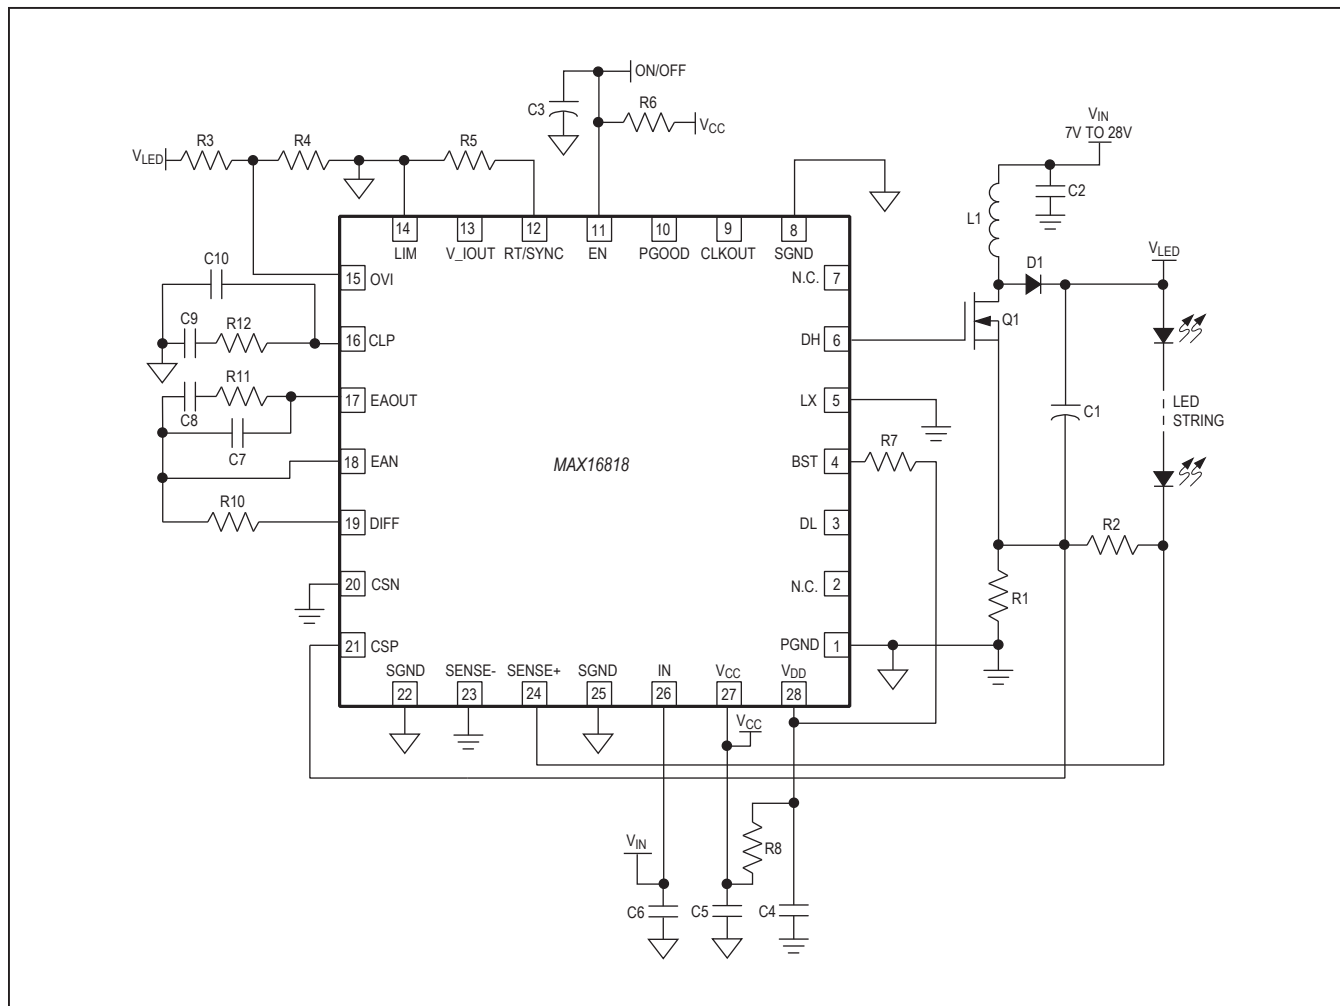
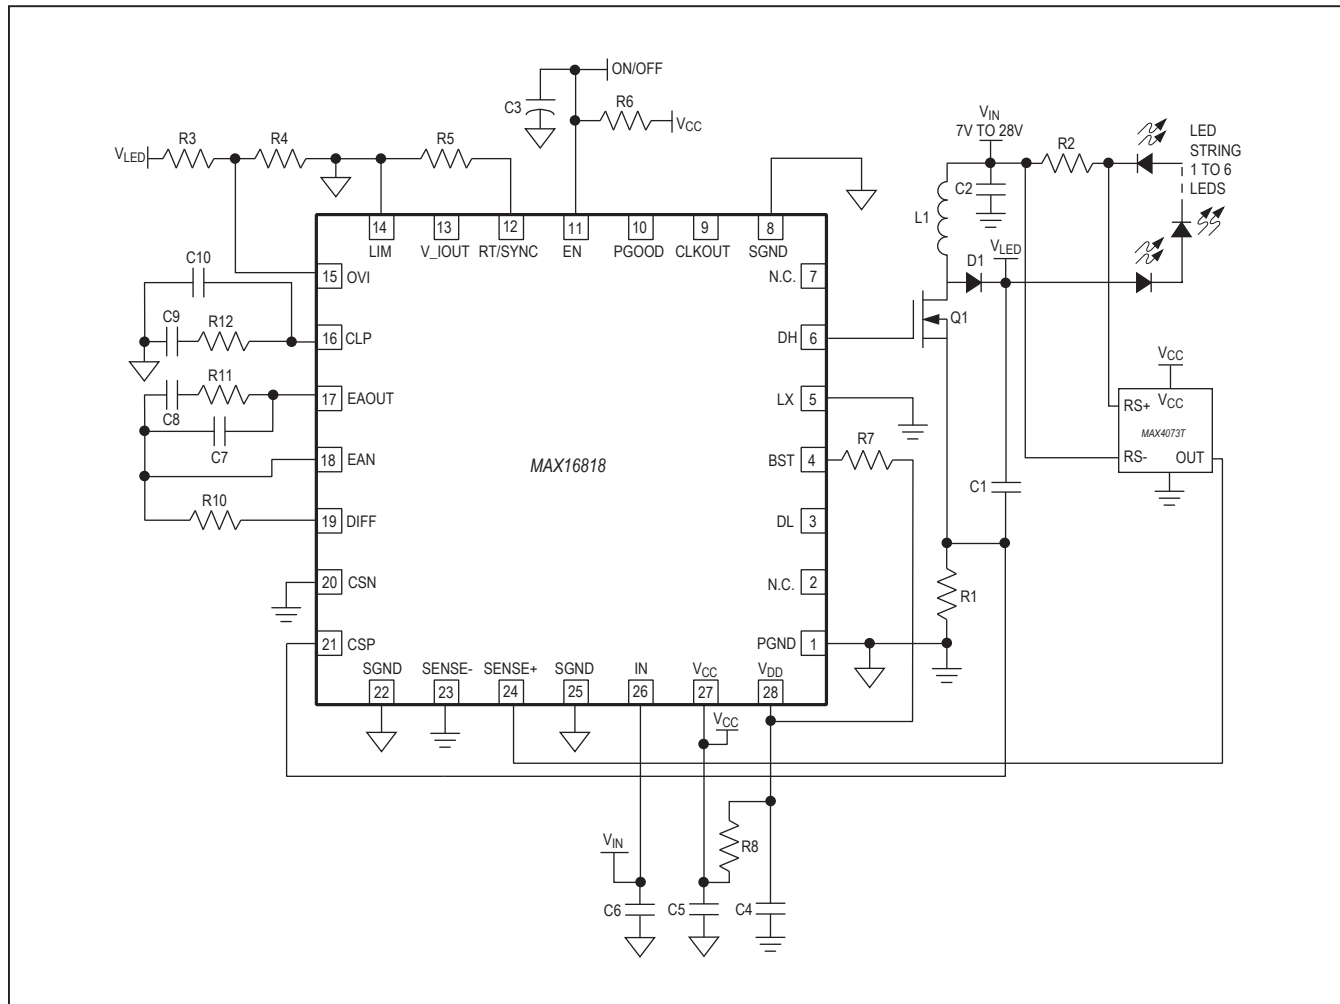

Figure 1. Typical Application Circuit for a Boost LED Driver (Nonsynchronous)
Figure 2. Typical Application Circuit for an Input-Referred Buck-Boost LED Driver (Input: 7V to 28V, Output: 1 to 6 LEDs in Series)
The high-side (DH) and low-side (DL) drivers drive the gates of external n-channel MOSFETs (Figures 1–5). The drivers' 4A peak sink- and source-current capability provides ample drive for the fast rise and fall times of the switching MOSFETs. Faster rise and fall times result in reduced cross-conduction losses. Due to physical realities, extremely low gate charges and $R_{DS(ON)}$ resistance of MOSFETs are typically exclusive of each other. MOSFETs with very low $R_{DS(ON)}$ will have a higher gate charge and vice versa. Choosing the high-side MOSFET (Q1) becomes a trade-off between these two attributes. Applications where the input voltage is much higher than the output voltage result in a low duty cycle where conduction losses are less important than switching losses. In this case, choose a MOSFET with very low gate charge and a moderate $R_{DS(ON)}$. Conversely, for applications where the output voltage is near the input voltage resulting in duty cycles much greater than 50%, the $R_{DS(ON)}$ losses become at least equal, or even more important than the switching losses. In this case, choose a MOSFET with very low $R_{DS(ON)}$ and moderate gate charge. Finally, for the applications where the duty cycle is near 50%, the two loss components are nearly equal, and a balanced MOSFET with moderate gate charge and $R_{DS(ON)}$ work best.
This section provides some detail regarding the application circuits in the *Simplified Diagram* and Figures 1–5. The discussion includes some description of the topology as well as basic attributes.
In Figure 1, the external components configure the MAX16818 as a boost converter. The circuit applies the input voltage to the inductor during the on-time, and then during the off-time the inductor, which is in series with the input capacitor, charges the output capacitor. Because of the series connection between the input voltage and the inductor, the output voltage can never go lower than the input voltage. The design is nonsynchronous, and since the current-sense resistor connects to ground, the power supply can go to any output voltage (above the input) as long as the components are rated appropriately. R2 again provides the sense voltage the MAX16818 uses to regulate the LED current.
The circuit in Figure 2 shows a step-up/step-down regulator. It is similar to the boost converter in Figure 1 in that the inductor is connected to the input and the MOSFET is essentially connected to ground. However, rather than going from the output to ground, the LEDs
span from the output to the input. This effectively removes the boost-only restriction of the regulator in Figure 1, allowing the voltage across the LEDs to be greater than or less than the input voltage. LED current sensing is not ground-referenced, so a high-side current-sense amplifier is used to measure current.